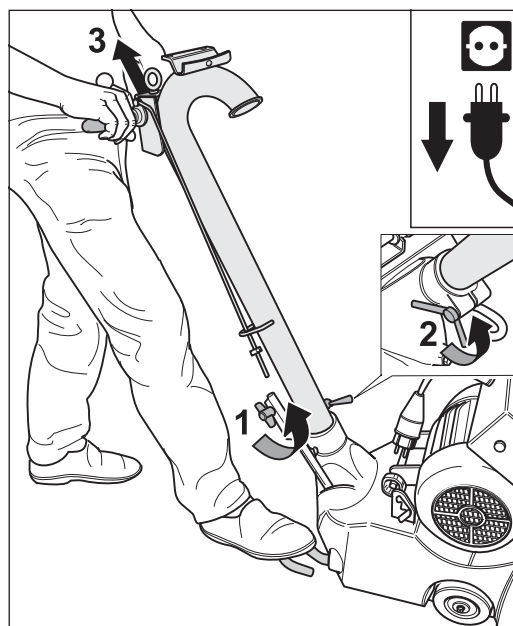

Fig. 54 After opening the wing screw (1) and wing nut (2) which fasten the rod linkage, the guide tube can be drawn out of the machine housing (3).
- 11 Open the wing screw at the lower rod (Fig. 54, 1) and the wing nut at the machine housing (Fig. 54, 2)
- 12 Pull the guide tube out of the machine housing (Fig. 54, 3).